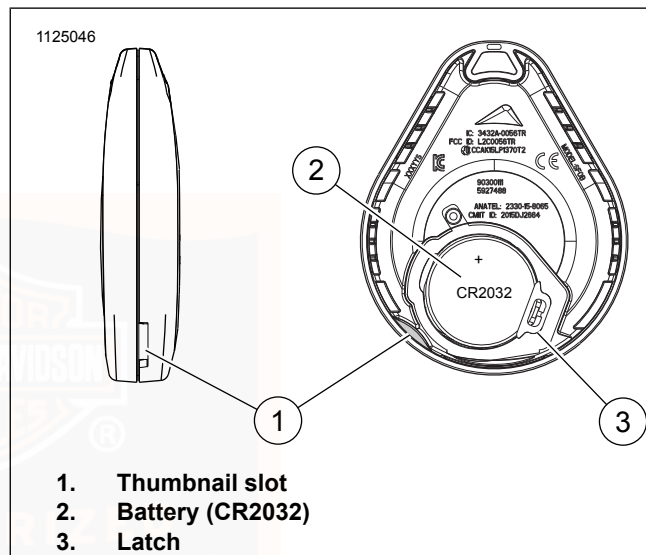

Figure 25. Replace Fob Battery
- See Figure 25. The serial number of the fob is also found on the inside of the fob.
1. See Figure 25. To open the fob, turn a thin blade in the slot (1).
2. Remove the battery (2) and discard in accordance with local regulations.